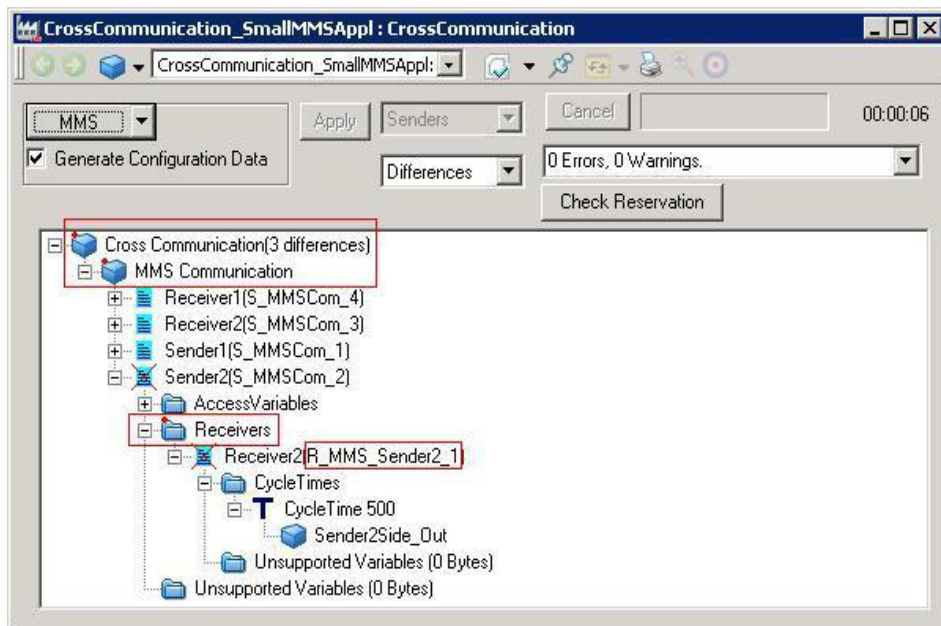

Figure 281. CrossCommunication between Multiple Sender and Receiver Diagrams
- b. Incase, cross communication occurs between multiple sender and receiver diagrams across multiple applications, and the each sender / receiver diagram are involved in communication with other diagrams. The Sender diagram's **Differences** view provides the list of applications and variables including the names of the obsolete MMS generated diagrams (see Figure 281). User must navigate to the respective application and manually delete the obsolete diagrams and datatypes individually.